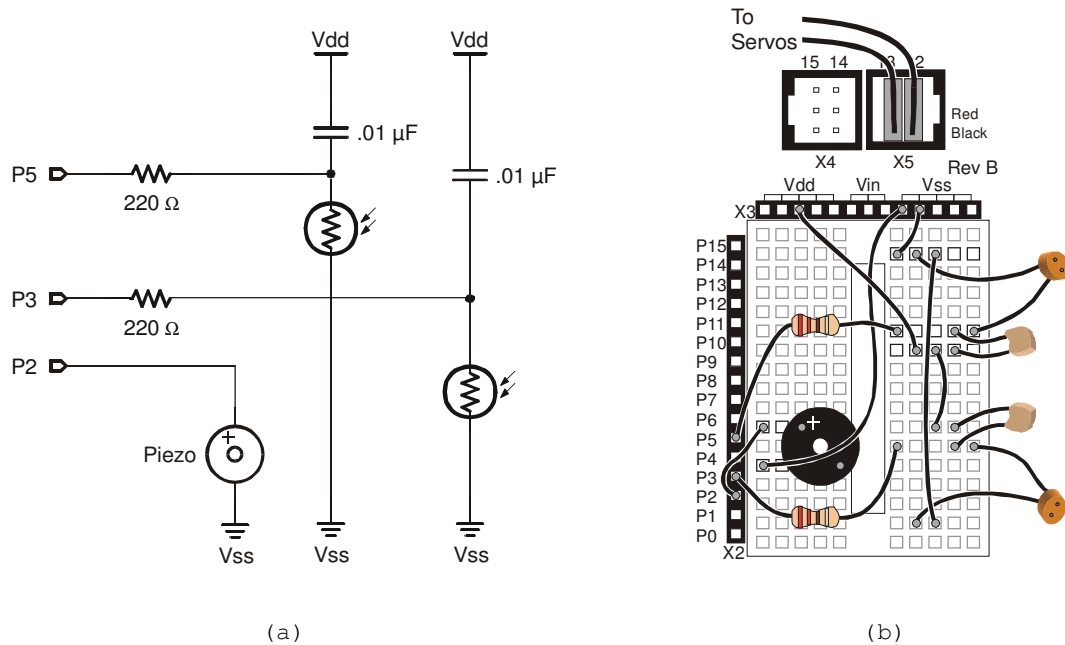

Figure 6.3: (a) Two photoresistor RC circuits for measurement of resistance that varies with light, and (b) breadboard example of the circuit.
Figure 6.3 shows (a) the resistor/capacitor (RC) circuit for each photoresistor and (b) a breadboard example of the circuit. A photoresistor is an analog device. Its value varies continuously as illuminance, another analog value, varies. The photoresistor's resistance is very low when it's light-sensitive surface is placed in direct sunlight. As the light level decreases, the photoresistor's resistance increases. In complete darkness, the photoresistor's value can increase to more than 1 $\text{M}\Omega$. Even though the photoresistor is analog, its response to light is nonlinear. This means if the input source (illuminance) varies at a constant rate, the photoresistor's value does not necessarily vary at a constant rate.
The circuit in Figure 6.3 (a) was designed for use with the **JAVA CPU.rcTime** method. This command can be used with an RC circuit where one value, either R or C, varies while the other remains constant. The **CPU.rcTime** method lends itself to measuring the variable values because it takes advantage of a time varying property of RC circuits. The time it takes for the voltage on an RC circuit to change voltage depends on $R \times C$, the RC time constant. The RC time constant is often denoted by the Greek letter Tau (τ).
For one of the RC circuits shown in Figure 6.3 (a), the first step in setting up the **CPU.rcTime** method measurement is charging the lower plate of the capacitor to 5 V. Setting the I/O pin connected to the lower capacitor plate by the 220 Ω resistor high for a few ms takes care of this. Next, the **CPU.rcTime** method can be used to take the measurement of the time it takes the lower plate to discharge from 5 to 1.4 V. Why 1.4 V? Because that's
The **CPU.rcTime** method for the circuit shown in Figure 6.3 measures how long it takes for the voltage at the lower plate of the capacitor to fall from 5 to 1.4 V. This time varies according to the formula: